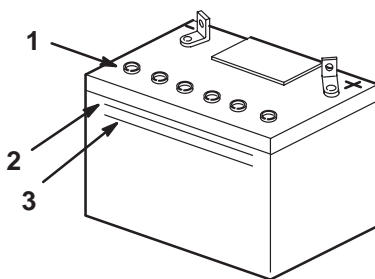

Figure 10
3. Remove the vent caps from the battery (Fig. 10). Slowly pour electrolyte into each battery cell until the electrolyte level is up to the Upper line on the battery case (Fig. 10).
4. Wait five to ten minutes after filling the battery cells. Add electrolyte, if necessary, until the electrolyte level is up to the Upper line (Fig. 10) on the battery case.